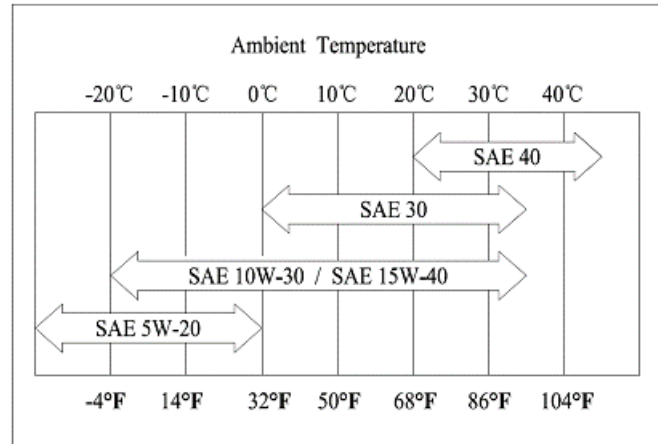

Figure 3-2: Recommended Oil Viscosity
6. See Figure 3-2. Fill the engine with 0.8L (27.05 oz.) of recommended oil.